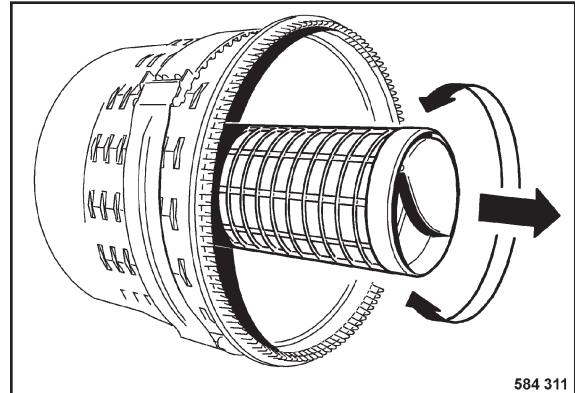

Fig. 166
- Pull the safety element (Fig. 166) out by slight turning movements.